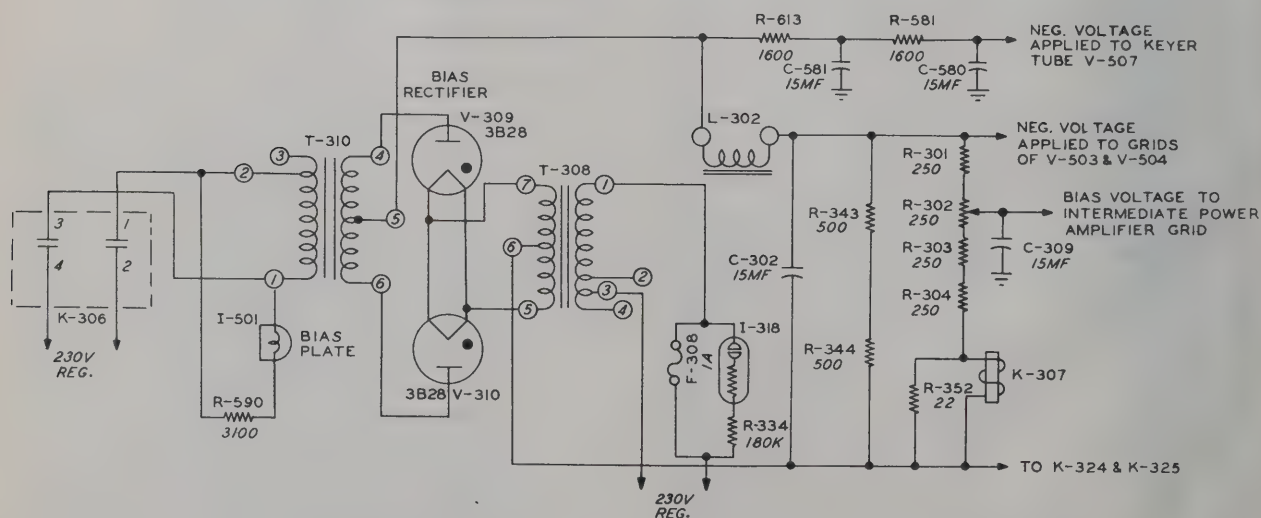

Figure 124. Power Supply Assembly PP-1088/FRT-26, Bias Supply, Schematic Diagram.
##### (1) Bias supply (fig. 124).